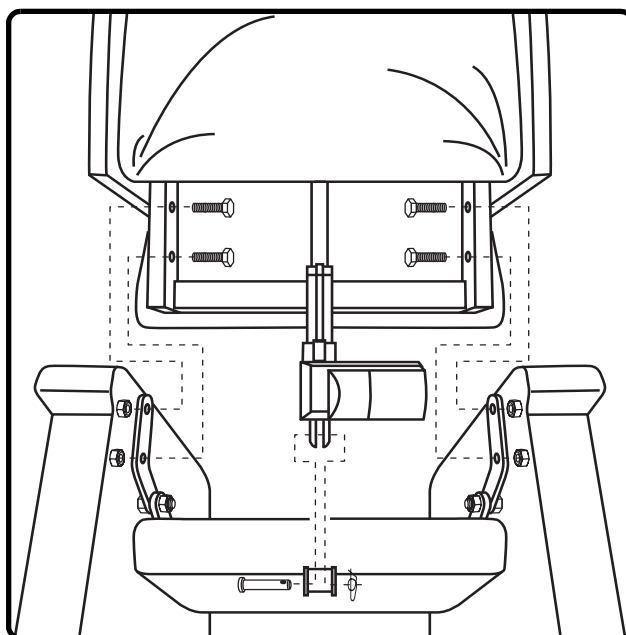

Figure 4.1 Lift Chair Assembly
3. With the pillow side of the chair-back and the lift chair armrests both facing the same forward position, position the chair-back between the chair base brackets, aligning the threaded bolts with the holes in the brackets. Insert the threaded bolts into the bracket holes and reinstall the nuts from step 1. Torque the nuts to 12 ft/lbs (53 N•m) to tighten securely (Fig. 4.1).